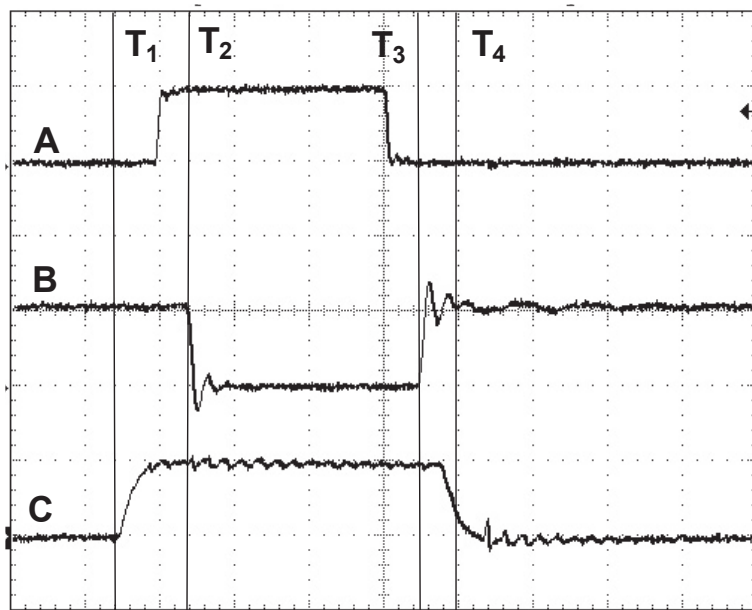

Figure 18
In Figure 18, trace (B) shows the anti-ringing function active during the pulse. In trace (B) we see the output with a greatly reduced ring amplitude.